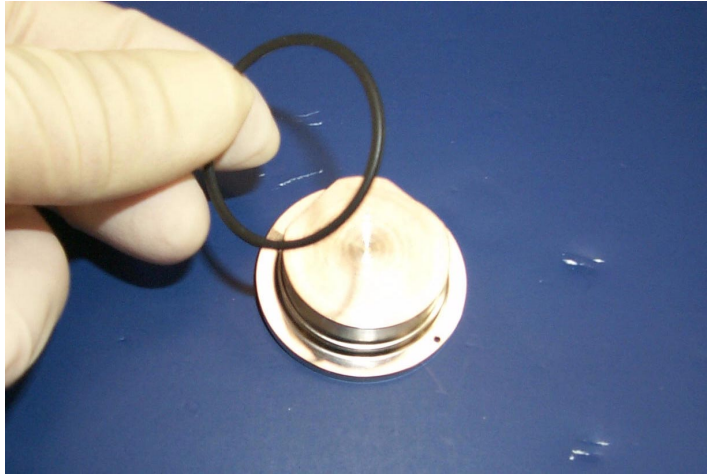

Figure 5-17 Removing the O-ring from Magnetic Pole Piece
23. Remove the O-ring from the magnetic pole piece and place both the O-ring and the magnetic pole piece on a clean surface (Figure 5-17).